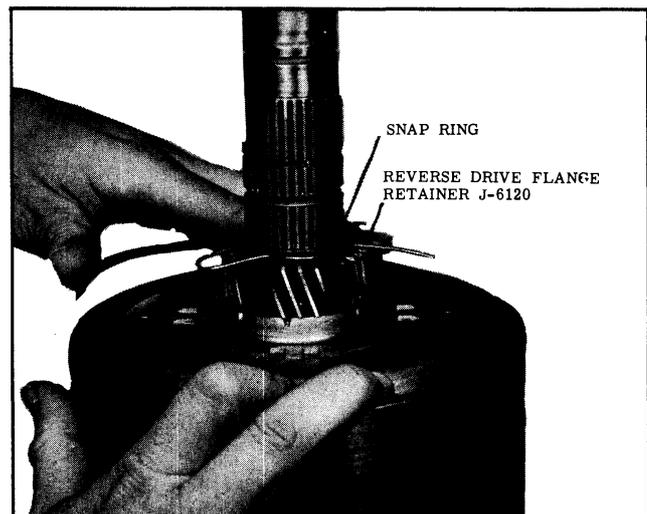

Fig. 3-71 Installing Snap Ring
- Install output shaft assembly into rear unit drum, then install snap ring into the drum. (See Fig. 3-71)